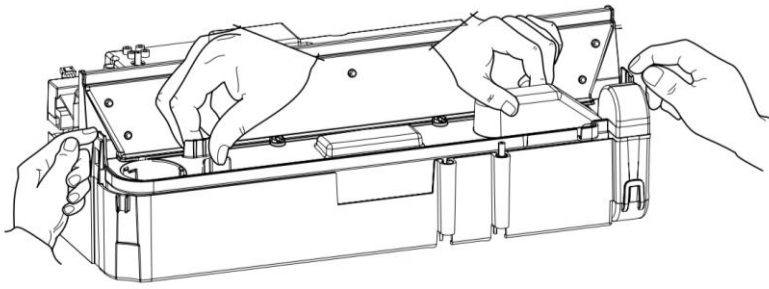

Fig 28
5. There are two orange clips holding down the nozzle on the sump; one on the left and one on the right side of the nozzle. On the left side, press in the clip with one hand and with the other lift the nozzle out of the clip. Repeat this for the right side (Fig 28).